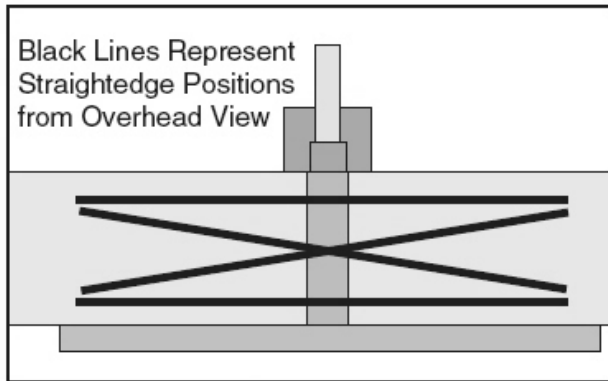

Figure 35. Straightedge positions for checking infeed/outfeed table parallelism.
2. Place the straightedge halfway across the infeed table and halfway over the outfeed table, as shown in Figure 35.
3. Place the straightedge in one of the positions shown in **Figure 35**.